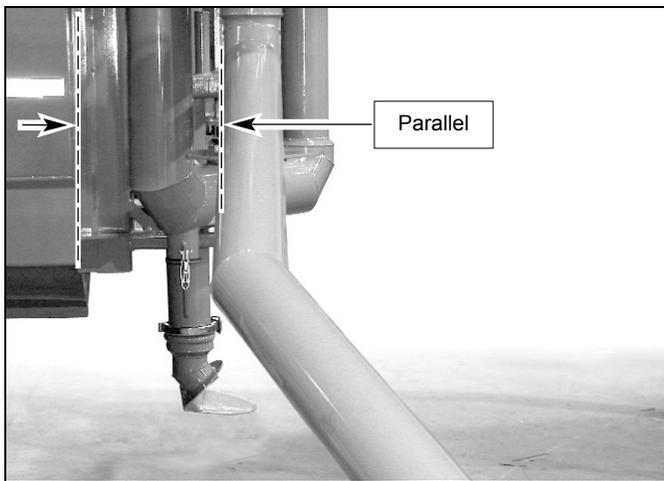

Fig. 21
4.1. Connect the hydraulic hoses of the motors to the tractor and open side arms fully. The upper arm sections must be parallel to the rear end of the tank - *fig. 21*.